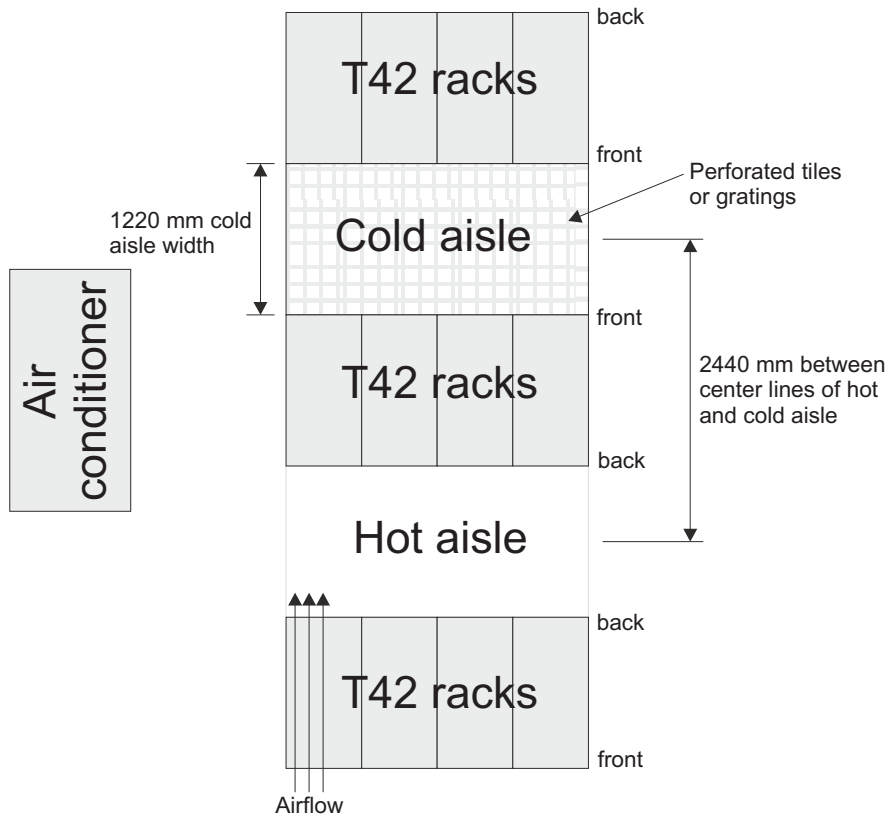

Figure 8. Example of cold aisle/hot aisle rack configuration
- Air enters at the front of the rack and leaves at the back. To prevent the air that is leaving the rack from entering the intake of another piece of equipment, you must position the racks in alternate rows, back-to-back and front-to-front. This arrangement is known as “cold aisle/hot aisle” and is shown in Figure 8 on page 16.